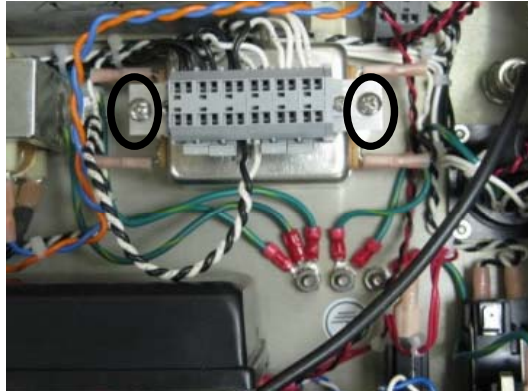

Figure 3
- 4) Using a #2 Phillips screwdriver remove the (2) screws that hold the Wago wire interface block and its bracket to the (2) standoffs on each side of the RFI Filter. Move the wago interface block out of the way. Fig.3